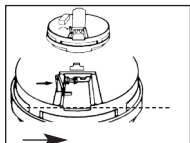

FIGURE 9
⚠ CAUTION! IF THE BATTERY REMINDER FINGER(S) ARE NOT HELD DOWN IN THE BATTERY COMPARTMENT BY THE BATTERY, THE BATTERY DOOR WILL NOT CLOSE, THE AC QUICK CONNECTOR WILL NOT ATTACH TO THE ALARM, AND THE ALARM WILL NOT ATTACH TO THE TRIM RING (SEE SECTION 6, FIGURE 9).
When installing the battery, press the battery reminder finger down into the battery compartment and install the battery (see figure 9).